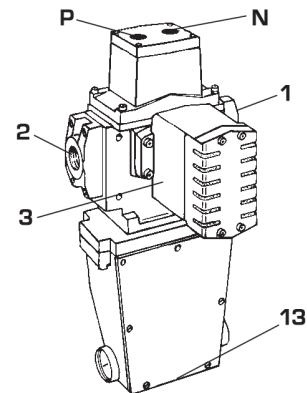

Figure 6 – External Ports and Overrides
Valve Inlet 1. See Figure 6. **DO NOT RESTRICT AIR SUPPLY.** Any restriction of the air supply lines (for example, sharp bends or undersized lines) will reduce the speed with which the outlet volume is pressurized. A restricted air supply can produce nuisance lockouts. See *Inadequate Air Supply*, page 5.
1. Remove silencer. Apply compressed air in the 30 to 100psig (2 to 7 bar) range to inlet port 1 (see Figure 6). There should be no pressure at outlet port 2 or exhaust port 3.
- 3.** Simultaneously energize both pilot solenoids, then depress manual override "N" (Figure 6). De-energize both solenoids while holding override "N" depressed. There should be a small flow of exhaust air. Release the manual override. Exhaust air flow should stop.